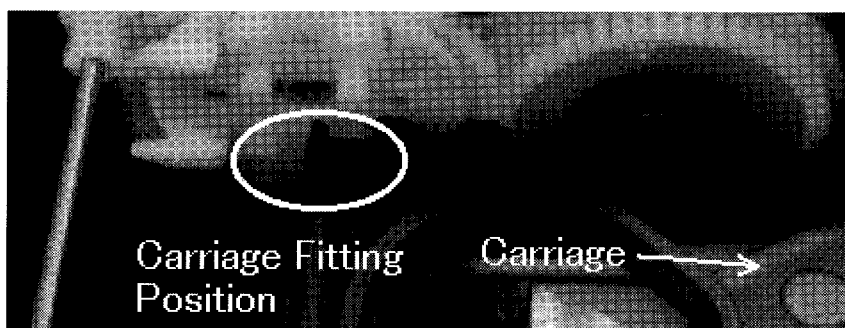

Fig.16
- 2) Then push in the left side of **CARRIAGE 20** on STAR GEAR C(20) and the rail part by warping the CARRIAGE. (See Fig. 16.)
- 3) Turn BEVEL GEAR 4 (8) clockwise to move **CARRIAGE 20** inside. After it reaches innermost, you cannot turn BEVEL GEAR.
- 5) Pulling up **CARRIAGE 20** horizontally, turn BEVEL GEAR 4 more clockwise. Then, **CARRIAGE 20** is installed and **CARRIAGE 10** moves inside by turning BEVEL GEAR 4(17) clockwise.
- 7) In assembly of the left side of CHASSIS, GEAR IDLER A(39) has a direction.